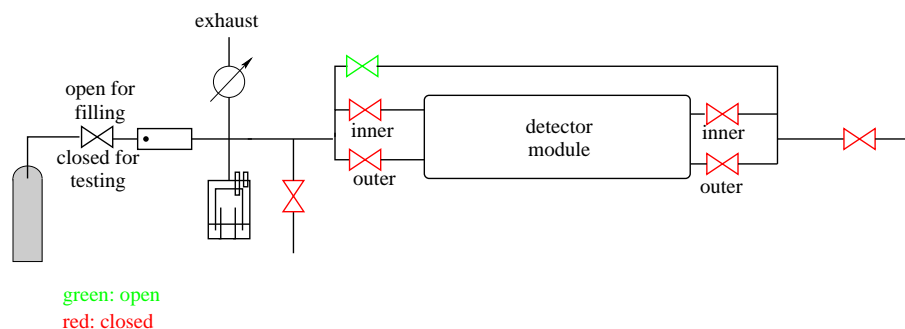

Figure 2: Settings of valves for blind test.
- Adjust the settings of the valves as shown in figure 2.